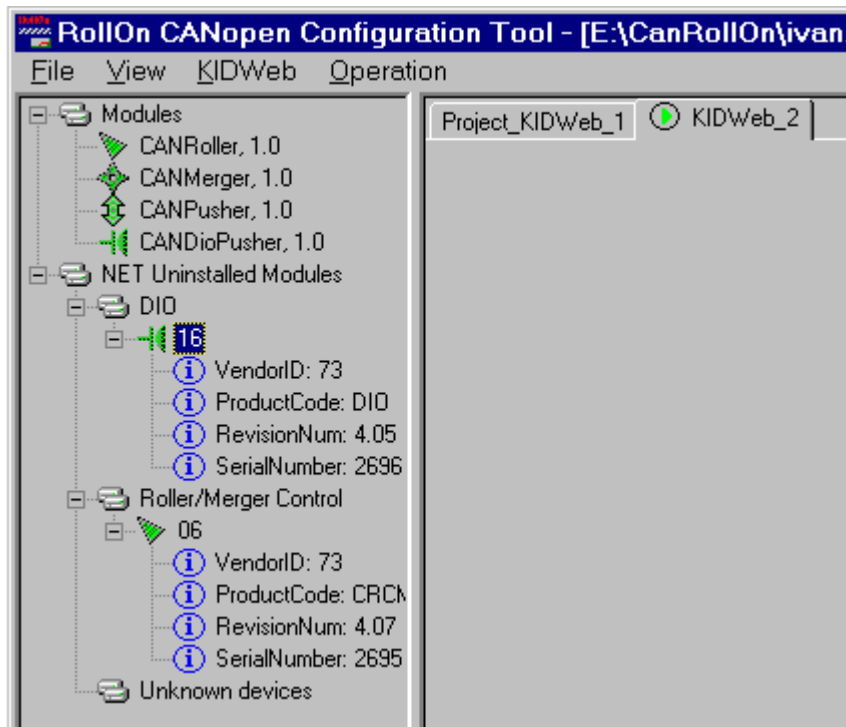

Fig. 5.7
- CANopen RollOn Configuration Tool recognizes all control modules assembled on the conveyor in terms of type and in terms of quantity. The information about these modules is displayed on the **NET Uninstalled Modules** sub-tree as illustrated in Fig. 5.7.